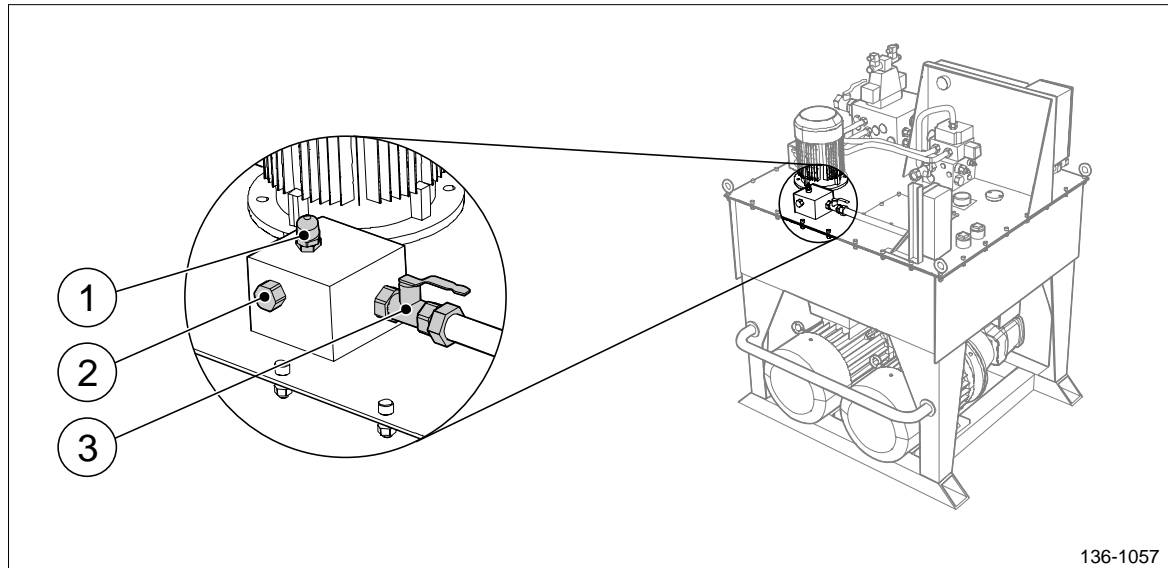

Figure 1 The back of the hydraulic power pack unit.
4. Locate the valve on the valve manifold (pos 2, figure 1).